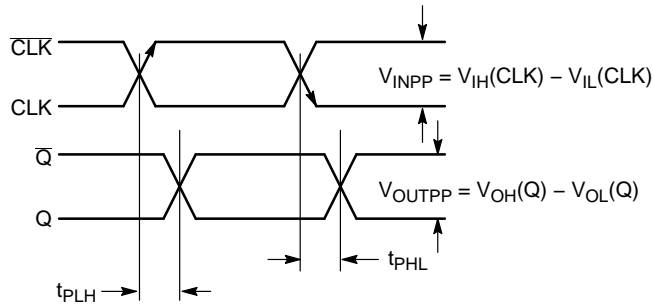

Figure 18. AC Reference Measurement
26. See Figure 18. $t_{SKEW} = |t_{PLH} - t_{PHL}|$ for a nominal 50% differential clock input waveform.